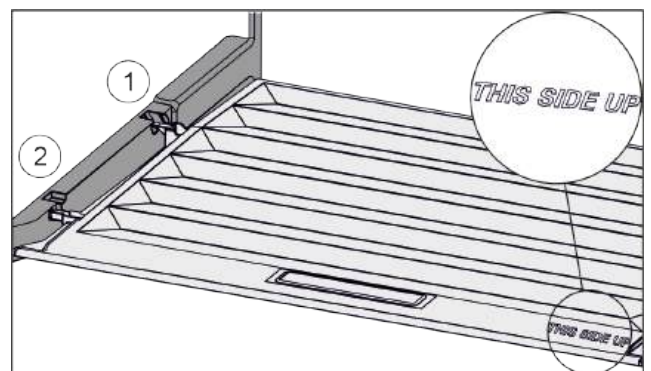

Fig. 110
- Insert the lip of the cover over the opening of the rear bracket Fig. 110 (1) and click into place Fig. 110 (2).